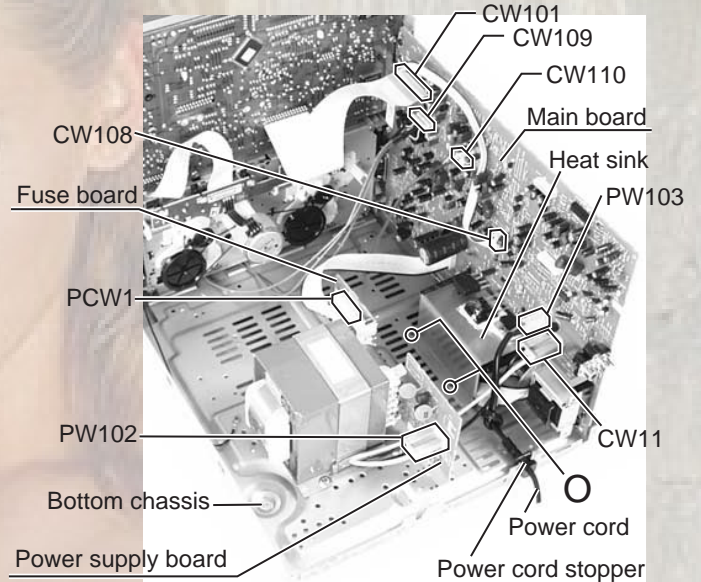

Fig.14
**■Removing the main board (See Fig. 14)**
**■Removing the power cord (See Fig. 14)**